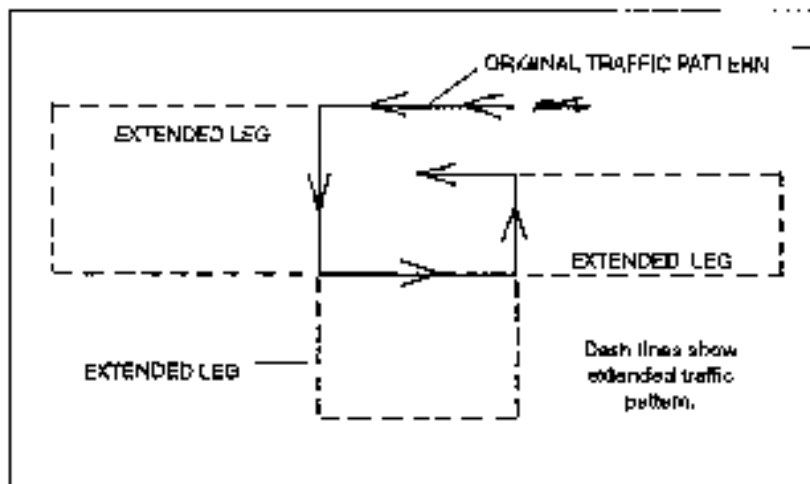

Figure 3-3. Traffic pattern extension.
b. Extension of the traffic pattern is limited to three legs: upwind, crosswind, and downwind (Figure 3-3); however, only one leg may be extended at a time. The base leg and final approach cannot be extended because they run back into the traffic pattern itself. Instructions to extend the traffic pattern will include the length of the extension; it is normally twice the original length of that leg. Care is taken not to extend the leg too far where you lose visual contact with the aircraft.